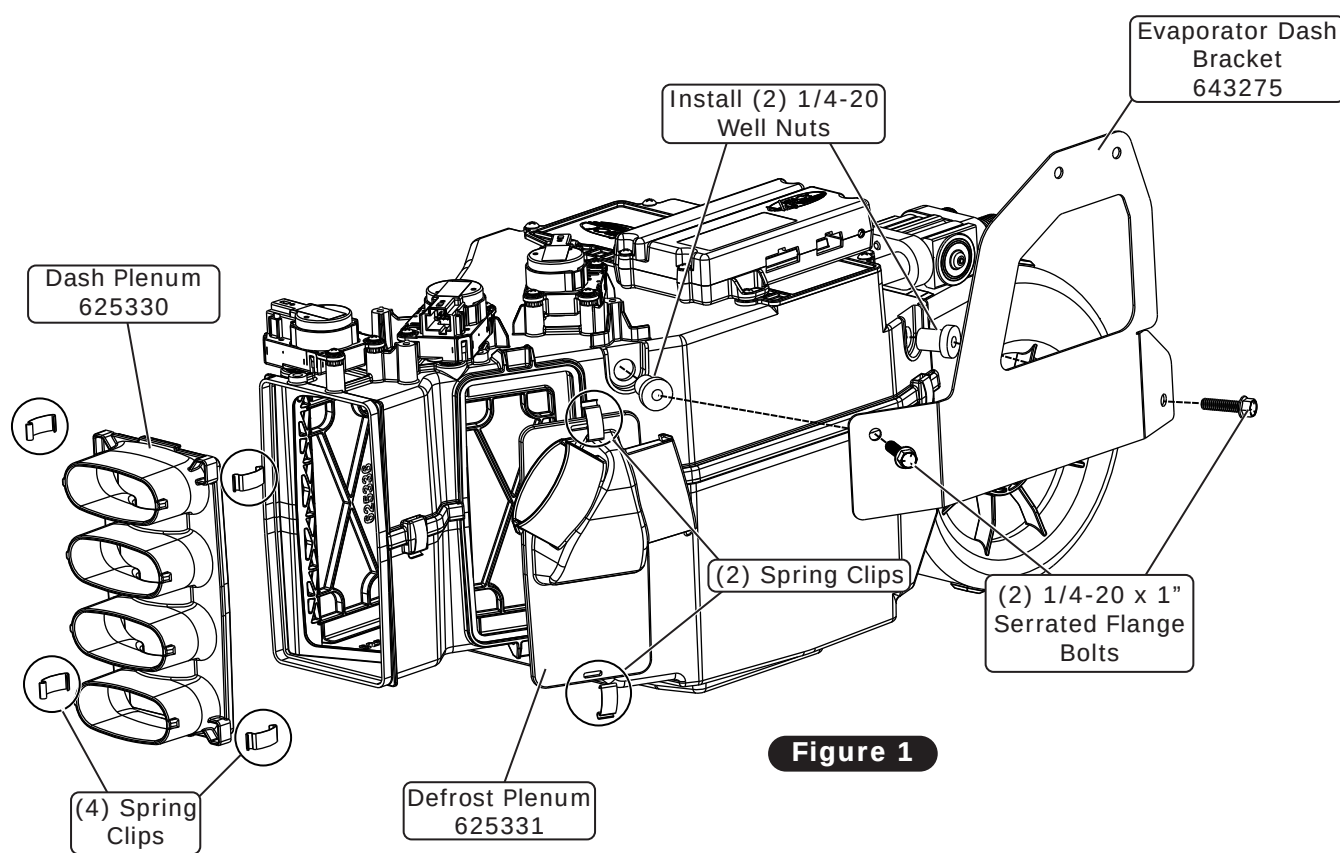

Figure 1
2. Install the dash plenum onto the evaporator module with (4) spring clips (See Figure 1, below).
3. Install (2) 1/4-20 well nuts onto the evaporator module as shown in Figure 1, below.
4. Secure the evaporator dash bracket onto the evaporator module using (2) 1/4-20 x 1" serrated flange bolts (See Figure 1, below).